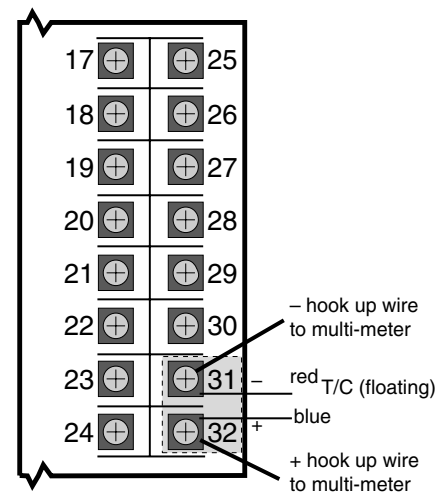

Figure D.4
4. Connect the hookup wire, as shown in Figure D.4, to terminals 31 and 32. The hook up wire connects to the multimeter. Set the meter for DC volts. Make sure the screws are tight.